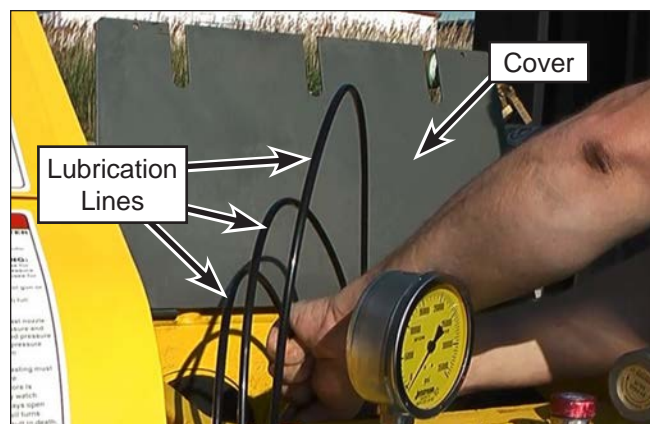

Figure 38: Connecting the Water Lubrication Lines.
25. Connect the water lubrication lines (Figure 38) to the fittings on the stuffing boxes.